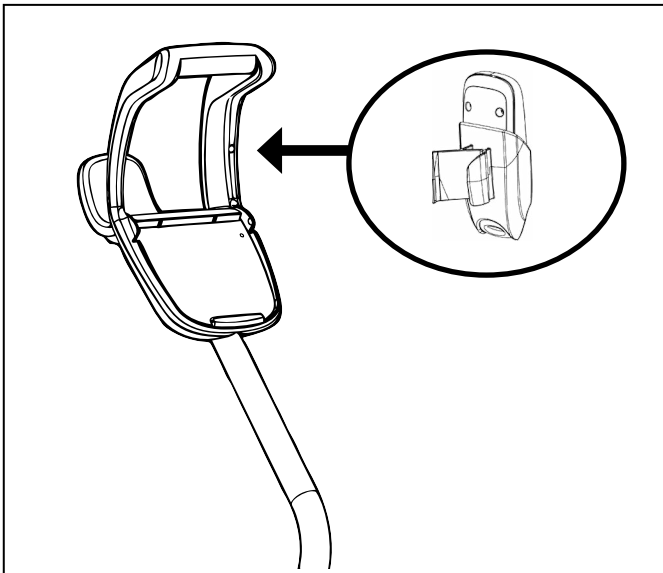

Figure 8. Snap Remote Control Holder into Place
9. **(9550 Sport/P955)** Locate pin on the remote control holder and align it with the receptacle on the handle of the caddy to attach the remote control unit to caddy (Figure 8).